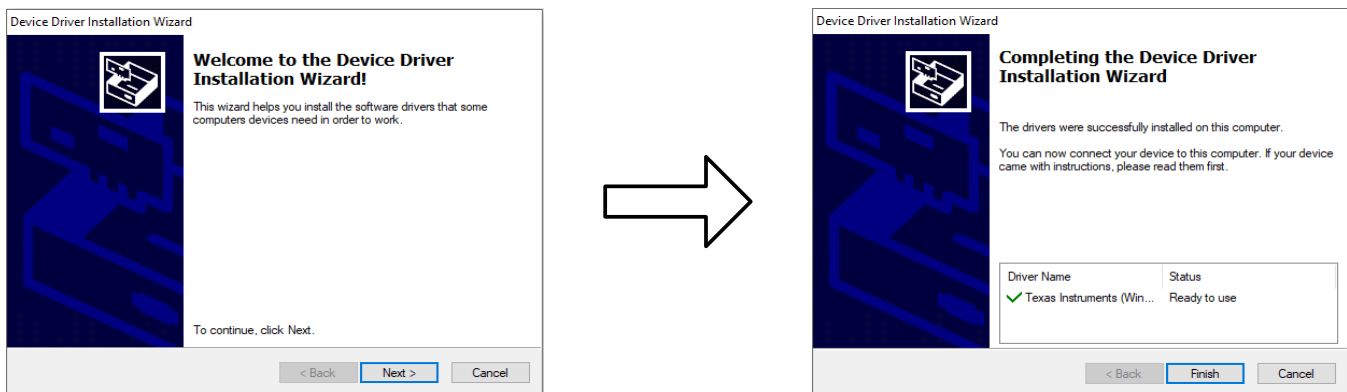

Figure 5. Device Driver Installation
- As a part of the TLV2553EVM GUI installation, a prompt with a device driver installation wizard shown in Figure 5 appears on the screen. Click the *Next* button to proceed, then click the *Finish* button when the installation is complete.